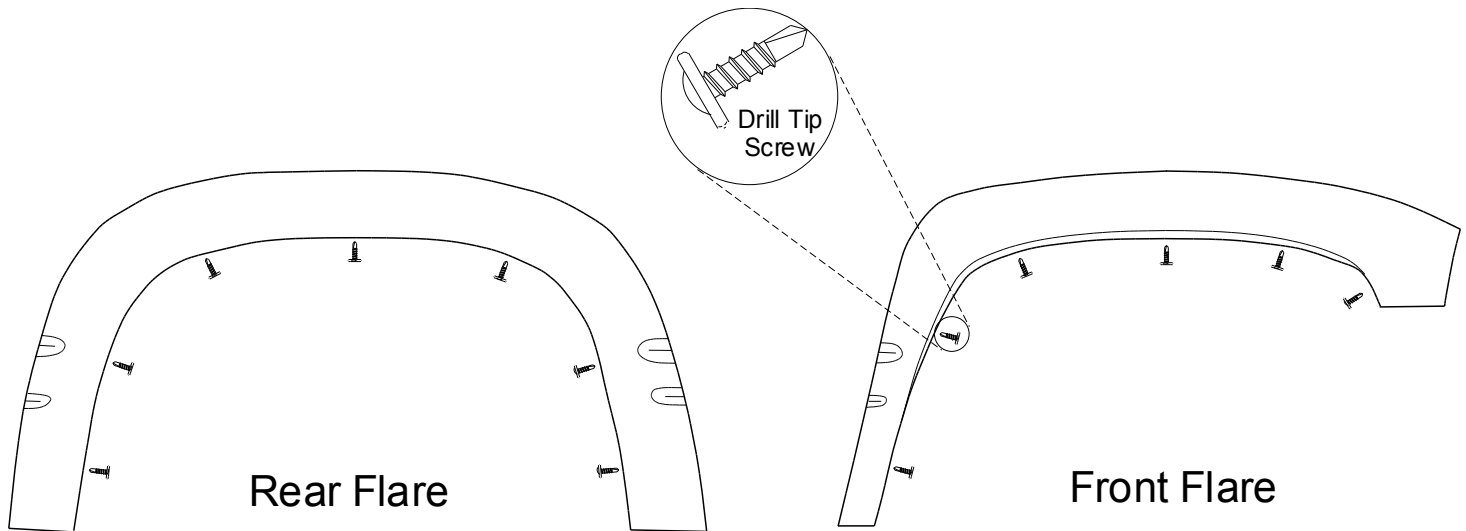

FIGURE 3
- (A) Drill all flares with a 3/16" drill bit using the indents formed into the flare as a guide.
- (B) Applying moderate pressure to the outside surface of the flares, fasten to the sheet metal with drill tip screws, using the holes in the flares as a guide. See FIGURE 3.